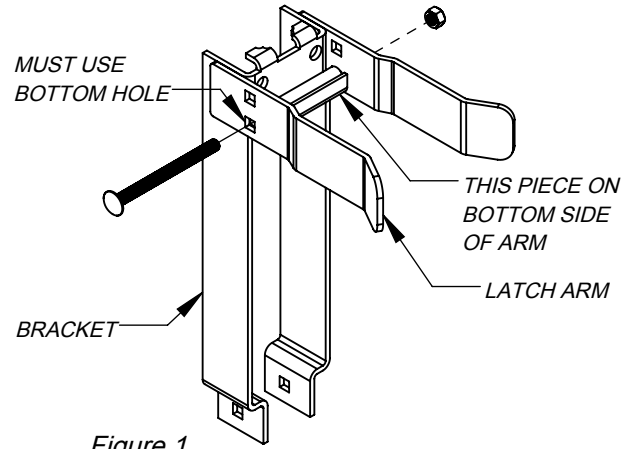

Figure 1
1. Attach the latch arm to the bracket using the 4.5" long bolt with a nut using the bottom holes of the arm (Figure 1). The arm should be able to rotate upward at this point.